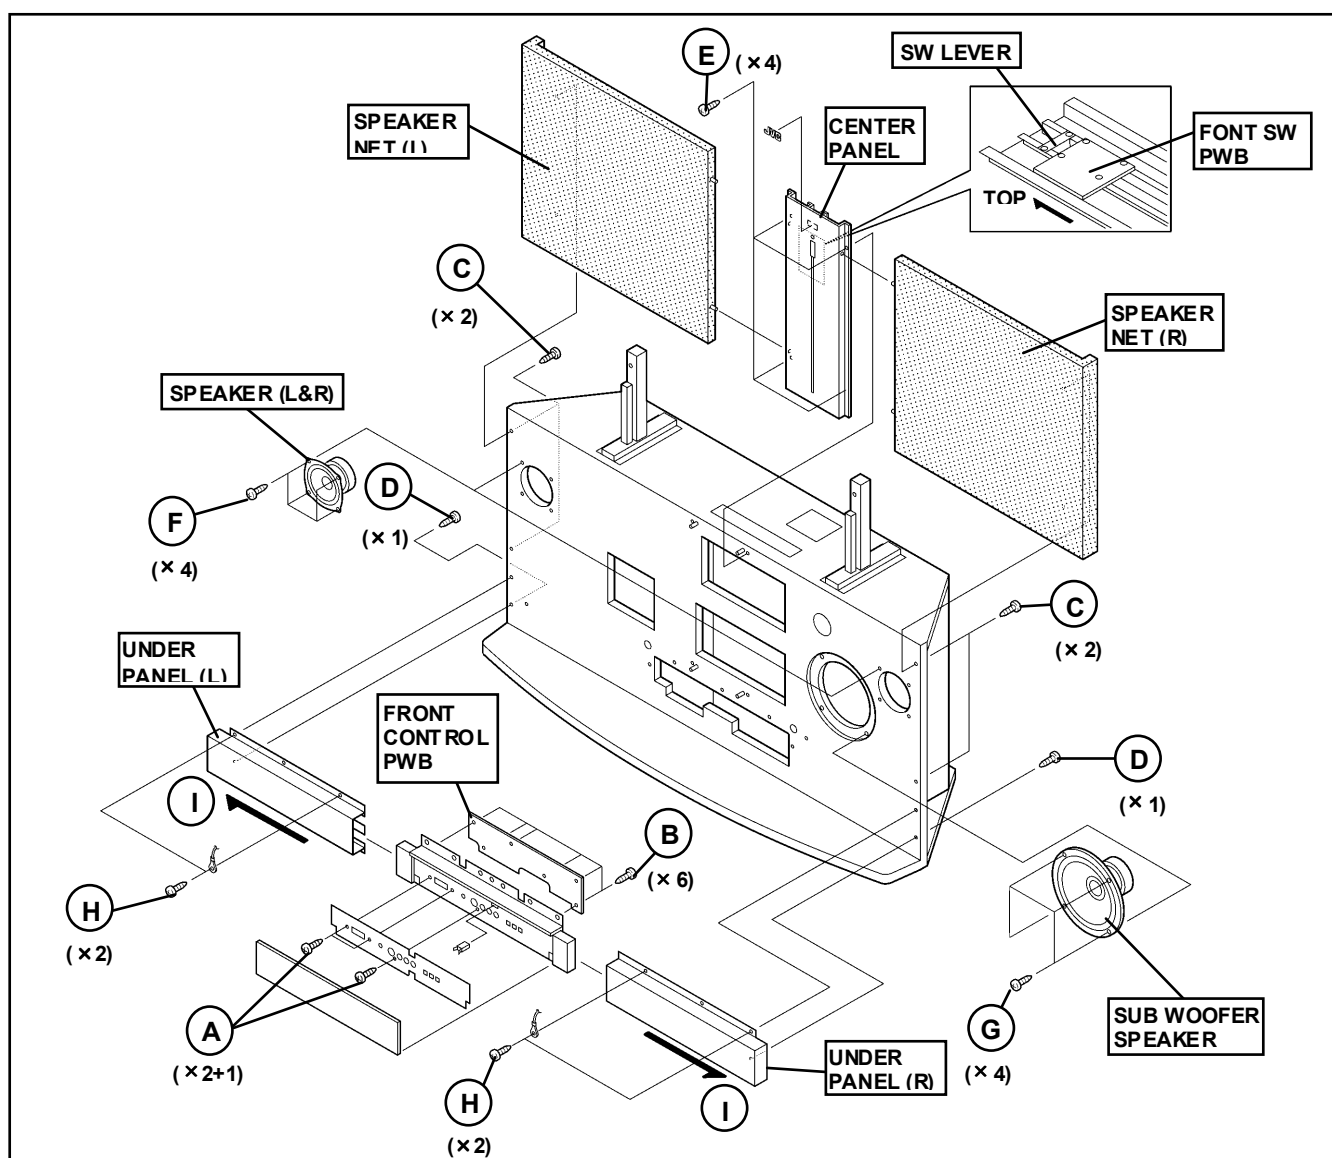

Fig.5
1. Remove the **2** screws marked **D** (L&R) as shown in Fig.5.
2. Remove the **4** screws marked **H** (L&R) as shown in Fig.5.
3. As shown Fig.5, remove the under panel (L&R) in the arrow direction marked **I**.
4. Remove the **3(2+1)** screws marked **A** as shown in Fig.5.
5. Remove the **6** screws marked **B** on the FRONT CONTROL PWB as shown in Fig.5.
1. Remove the **4** screws marked **C** (L&R side) as shown in Fig.5.
3. Remove the **4** screws marked **E** as shown in Fig.5.
4. Then remove the CENTER PANEL / FRONT SW PWB & SW LEVER as shown in Fig.5.
1. Remove the **4** screws marked **F** as shown in Fig.5.
3. Remove the **4** screws marked **G** as shown in Fig.5.